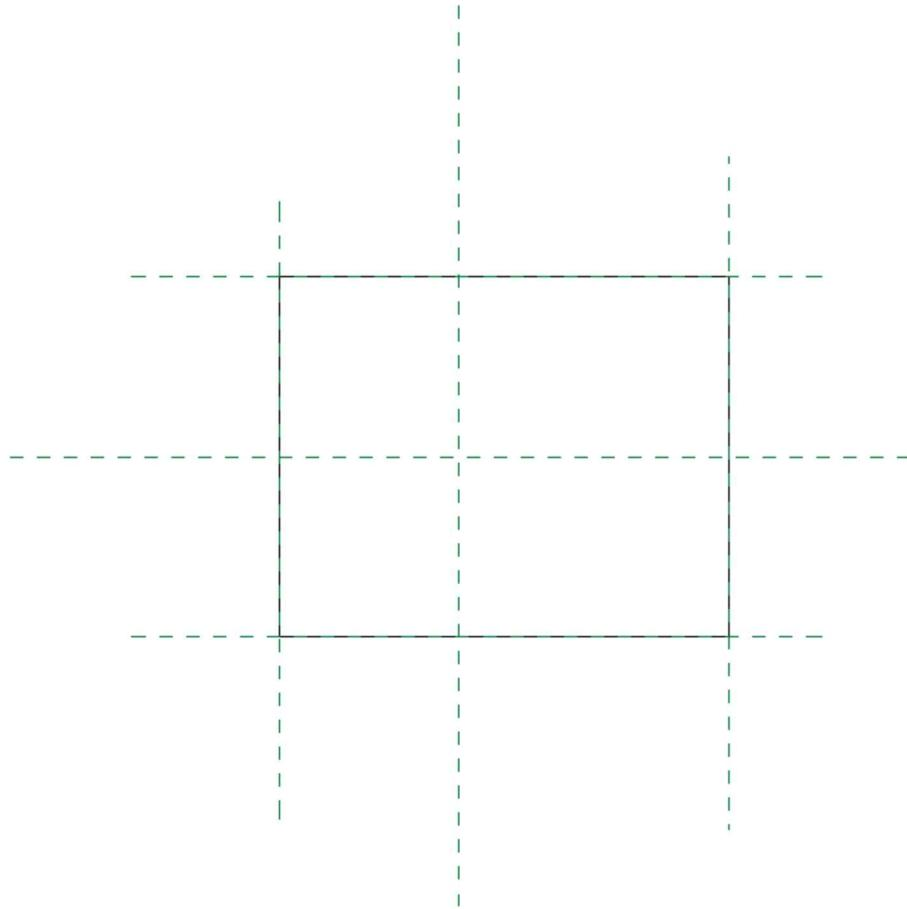

FIGURE 17-2.17 Right-hand reference plane repositioned
30. Select the *Reference Plane* on the right and use the **Move** tool to move it **1'-0"** more to the right (Figure 17-2.17).
31. Notice the 3D box moves with the *Reference Plane* (Figure 17-2.17).